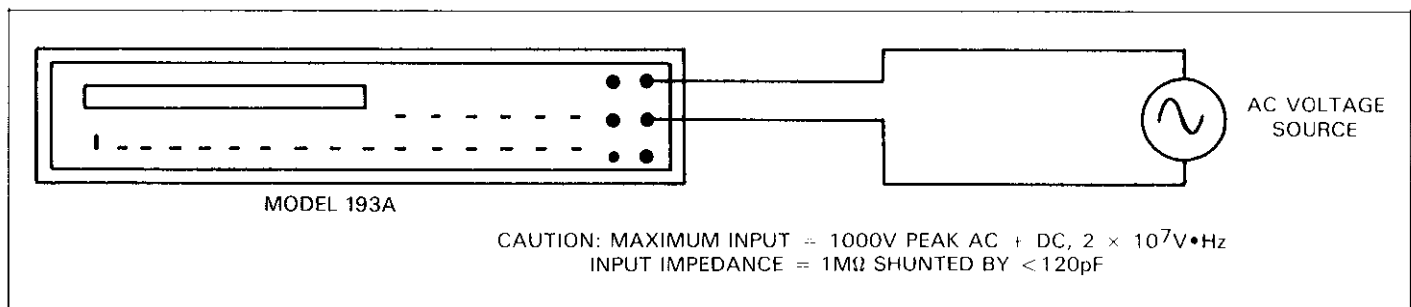

Figure 2-4. TRMS AC Voltage Measurements
4. Connect the signal to be measured to the selected input terminals as shown in Figure 2-4.